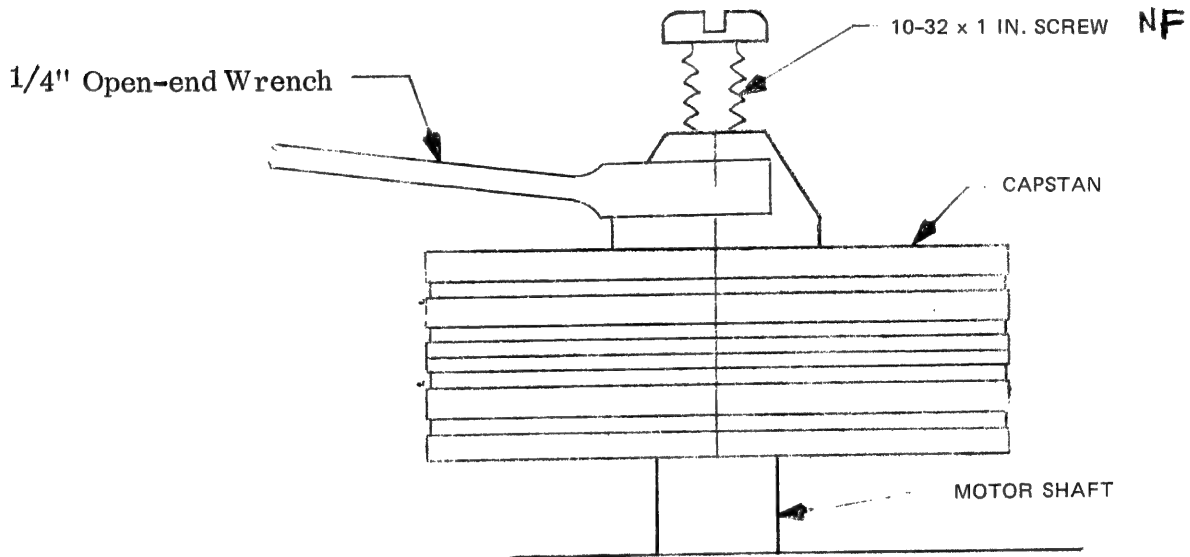
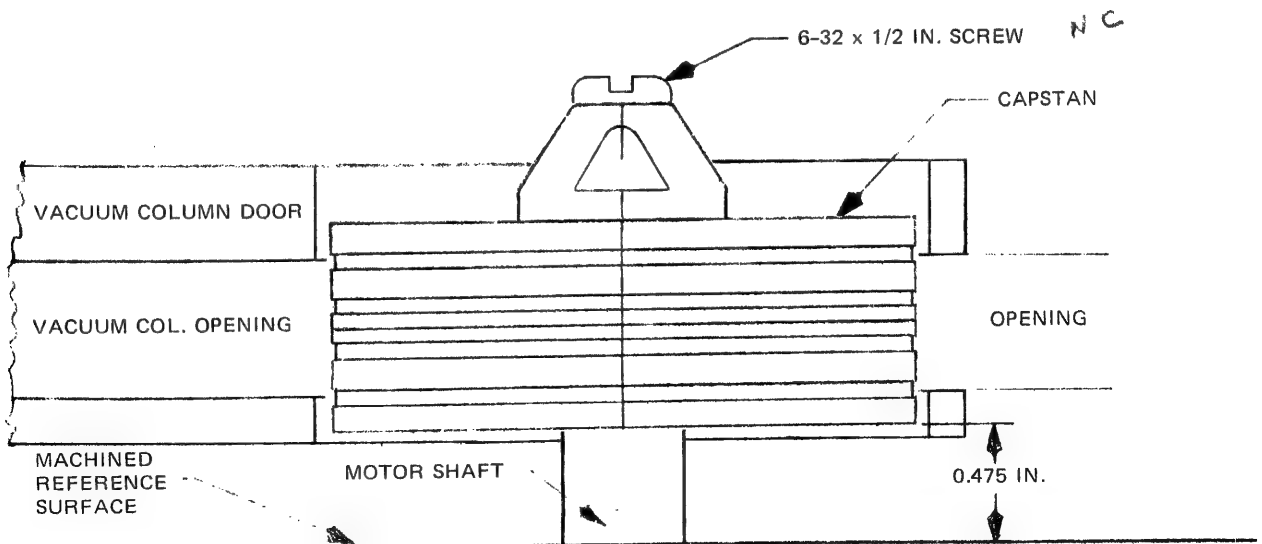

Figure 5-6. Capstan Removal
Figure 5-7. Replacement Capstan Positioning
- a. Screw 1-inch-long, 10-32 NF screw into end of capstan hub until it contacts end of motor shaft. Hold capstan with 1/4-inch open-end wrench (see Figure 5-6), and tighten screw. This will cause capstan sleeve to be pulled from motor shaft.
- b. Install replacement capstan over motor shaft until resistance is felt. Insert 1/2-inch-long, 6-32 NC screw through hole in capstan hub, and screw it into threaded hole in motor shaft. Tighten screw until head of screw comes in contact with front of capstan hub. Hold capstan as shown in Figure 5-6, and continue to tighten screw, which will cause capstan to be pulled onto motor shaft. Correct height for capstan is shown in Figure 5-7 (centered in vacuum opening).